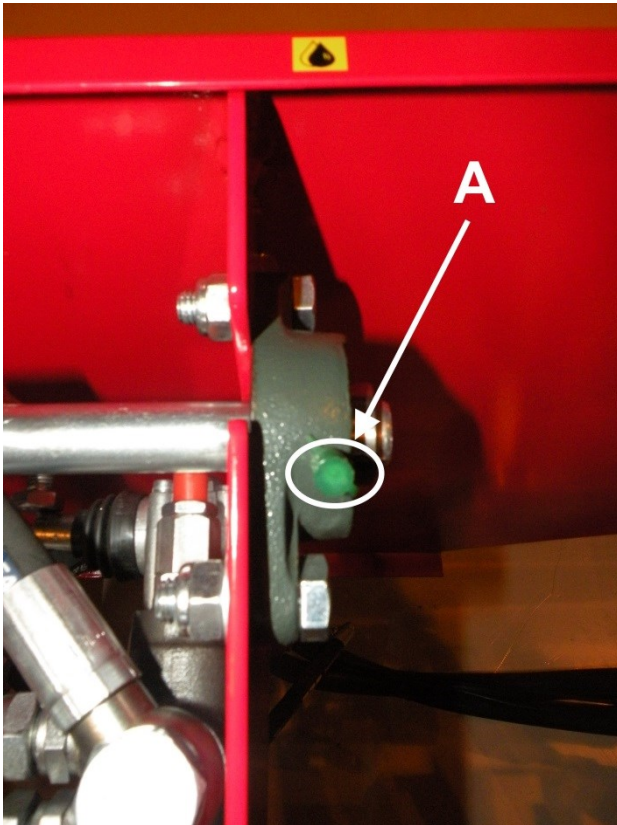

Figure 30.
All of the log splitter's lubrication points, which require Vaseline, have been labelled. The lubrication must be performed every 10 hours. There are nine lubrication points, presented in figures 30 and 31 below.
1. The right-side nipple A of the saw shaft (Figure 30).